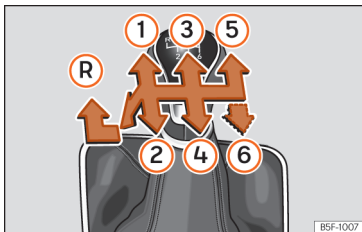

Fig. 99 Gear shift pattern of a 5 or 6-speed manual gearbox.
»» Fig. 99.
- With the gear lever in neutral, push it down, move it all the way to the left and then forwards to select reverse gear »» Fig. 99 (R).